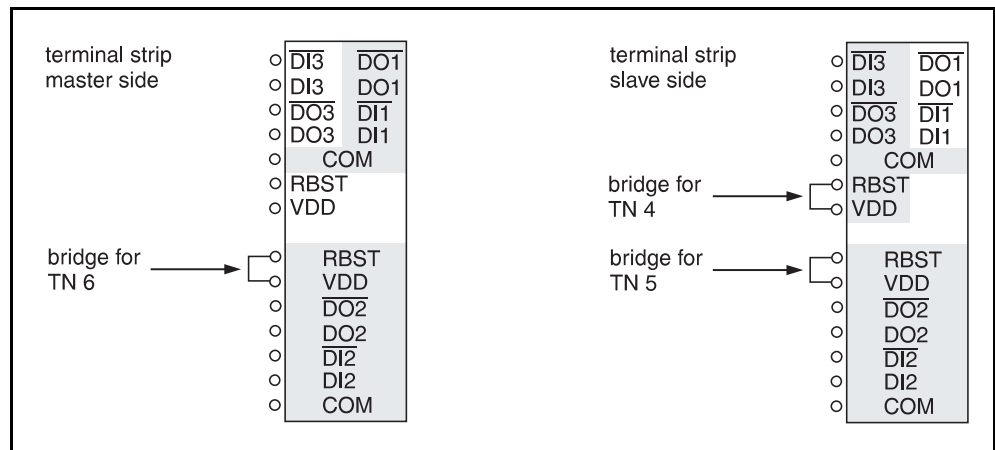

Fig. 6.3.12: Terminal strips used in the master or slave installation
Subscribers (TN) immediately following the ODT2 in the INTERBUS must be registered on the terminal strip with wire bridges as described in Figure 6.3.12. If one of the subscribers is not used, the wire bridge provided for it remains open.